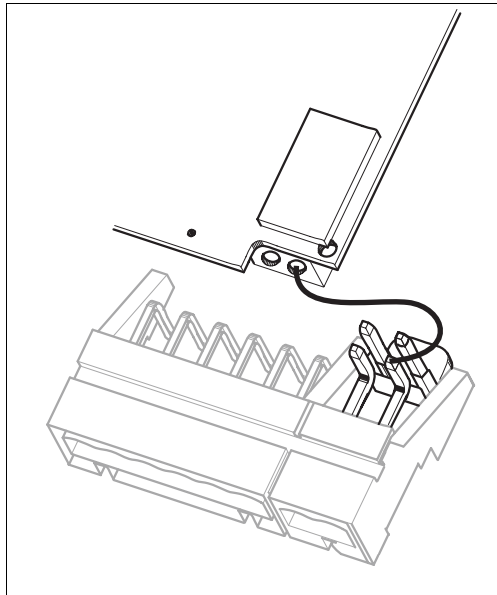

Fig. 28: pH input module in the housing cover with cable (red) for connecting glass electrodes
5. On the right-hand side of the housing cover, disconnect the red cable to the pH input at both ends (see Fig. 28).